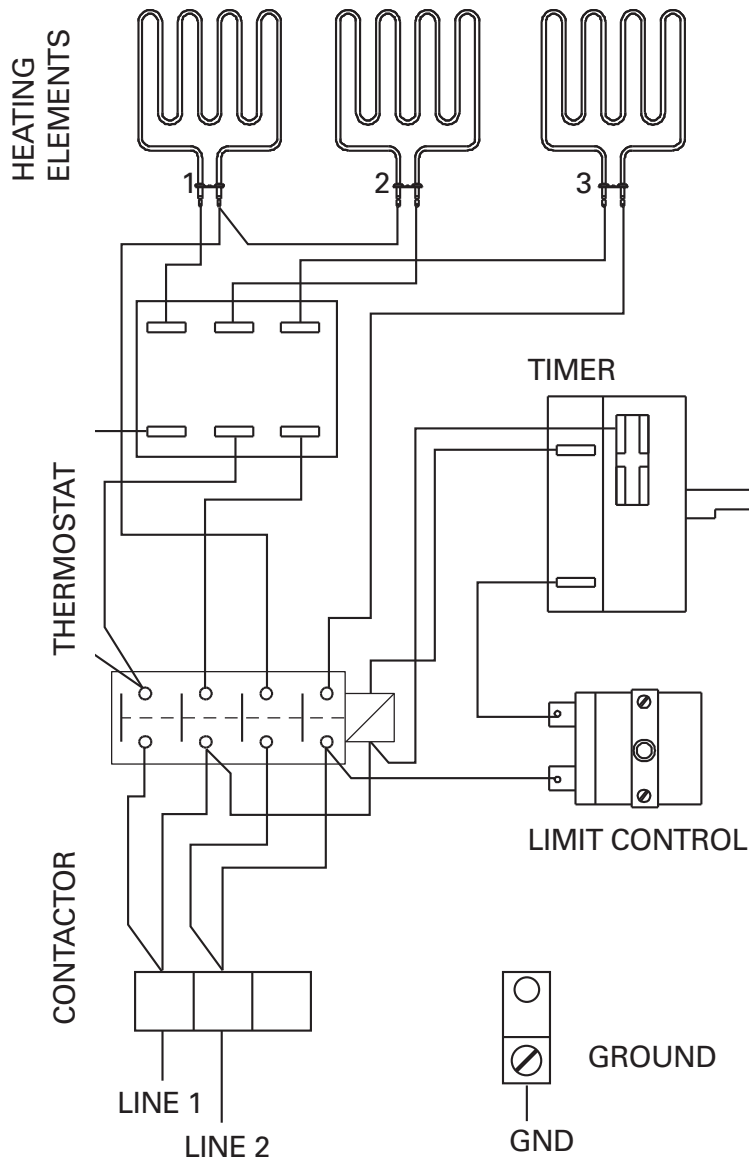

Figure 4.
2. See applicable wiring diagram figure 4 for heater model. Heater must be permanently installed (no pigtailed or plug allowed) and wiring must be done by a licensed electrician, who must follow wiring diagram provided and adhere to local codes. Use proper A.W.G. rated wire size and use copper wire suitable for 194°F (90°C) within sauna walls. Use grounding terminals provided in sauna heater, control system, and contactor to properly ground the equipment as per NEC and local codes.